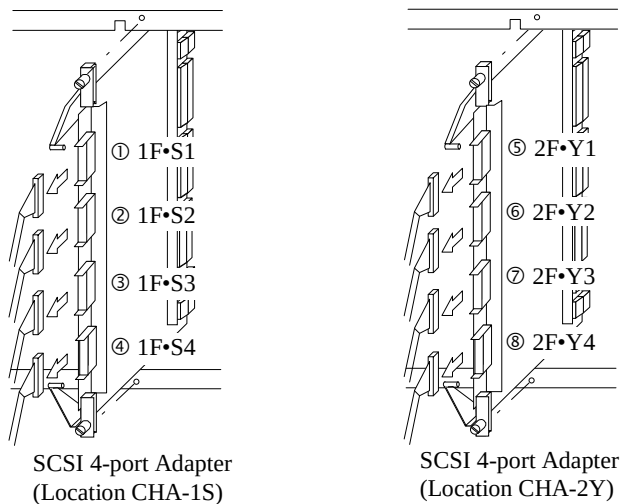

Fig. 4.7.5-5 Disconnection of SCSI Cables (Add.3)
- a. Disconnect the SCSI cables from the Sub-edge connectors on the PCB referring to Table 4.7.5-2, Table 4.7.5-6, and Fig. 4.7.5-5.